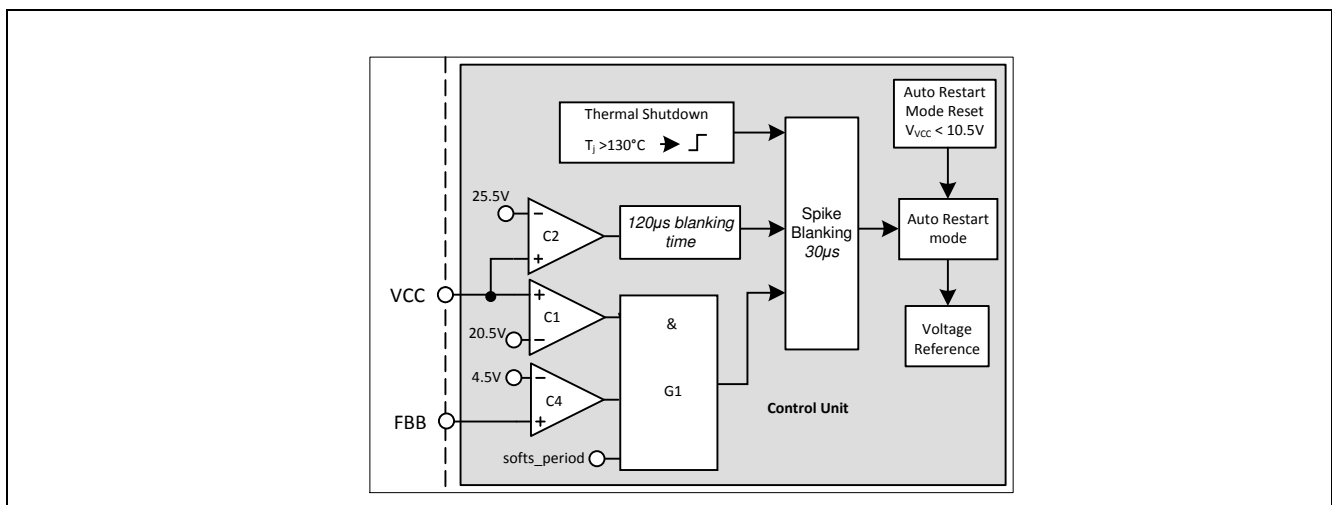

Figure 30: V_{cc} OVP and OTP
V_{cc} OVP (1) condition is when V_{VCC} voltage is > 20.5V, V_{FBB} voltage is > 4.5V and during soft start period, the IC enters into odd skip Auto Restart Mode. This condition likely happens during start up at open loop fault (Figure 30).